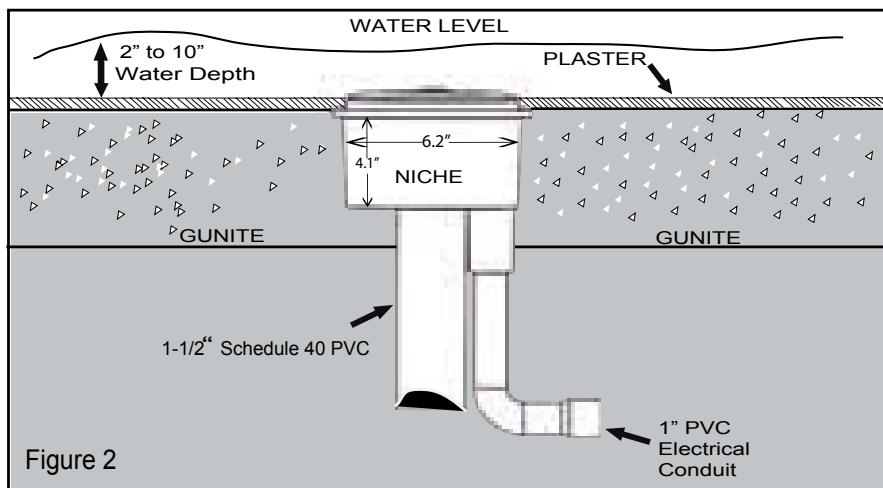

Figure 2
- The Junction Box and the low voltage transformer is located at least eight (8) inches (20.3 cm) above ground level and at least 48 inches (1.219 m) from the edge of the pool; see Figure 2 on page 8.
1. Install the ColorCascade light niche in the pool or spa floor as shown in Figure 2.
5. Apply plaster up to the outer edge of the gunite cover. The gunite cover should be the only exposed part of the niche after plastering, see Figure 2 on page 8.